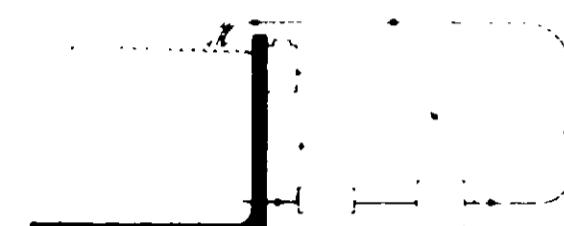

Figure 4. Above-ground pool installation
**For an above-ground pool (Figure 4).** Installation is not unless the equipment which the filtration equipment is located below the pool water level. The feeder should be located on a deck above the pump and filter if at all possible. A simple feeder bracket (part #1 available for the Tabex Aquarian Feeder at a nominal cost) The bracket stabilizes a support feet of the pool.
If it is necessary to locate the feeder below the pool water level, consult with your Tabex pool supplier for recommendations on a professional pool designer to make the installation. **Never install the feeder in a basement area.** Figure 4.